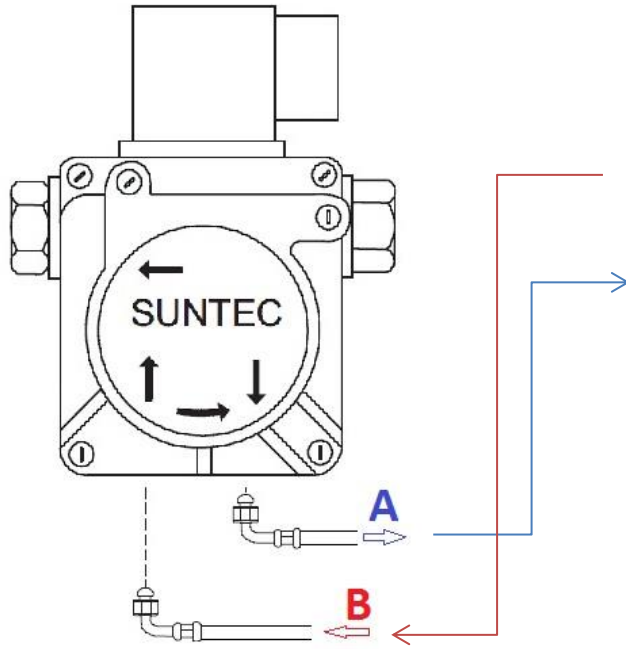

Figure 14
Please note that the arrow markings, ensure that the arrow directions of the oil pump and the oil filter match, the flow and return (see figure 14 and 15);
**Warning:** By the following automatic air vent filters never change flow and return (A and B, see figure 14 and 15), this can damage the filter!